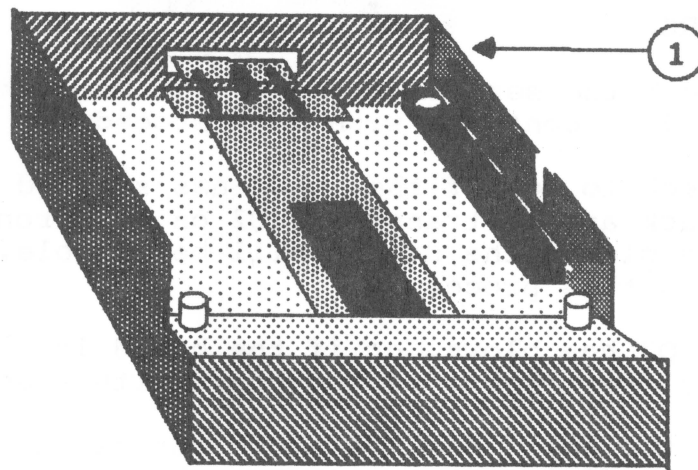

Figure 1
On some Duodisks with serial numbers before 325000, the analog board is too loose and may slip out of its guide track (the forward supports on the sides of the shield - see Figure 1, #1, next page). This brings the analog board into contact with the disk mechanical assembly and may short circuit the board when power is applied. Where this condition exists, the sides of the shield must be bent inward slightly to prevent the board from falling. This document contains the procedure.
4. Using needlenose pliers, bend the top of the shield inward about 1 mm., so that the guides hold the analog board firmly in place (see Figure 1, #1).